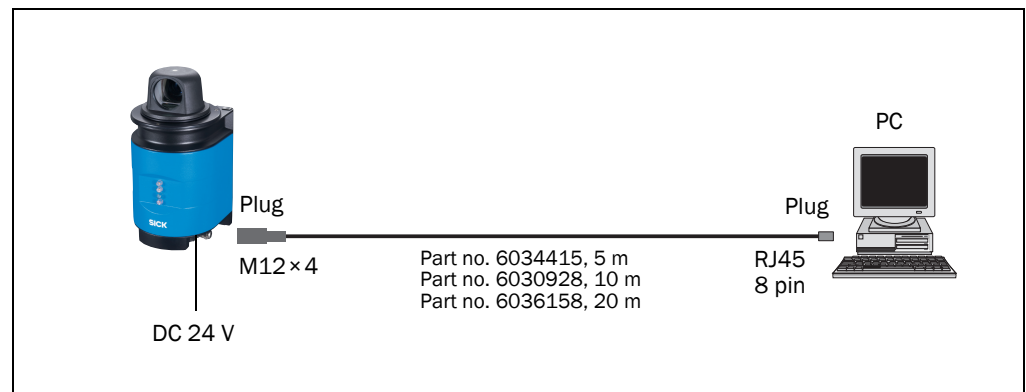

Fig. 16: Ethernet connection
- Connect the PC to the NAV310 using the Ethernet cable (see fig. 16 on page 34)